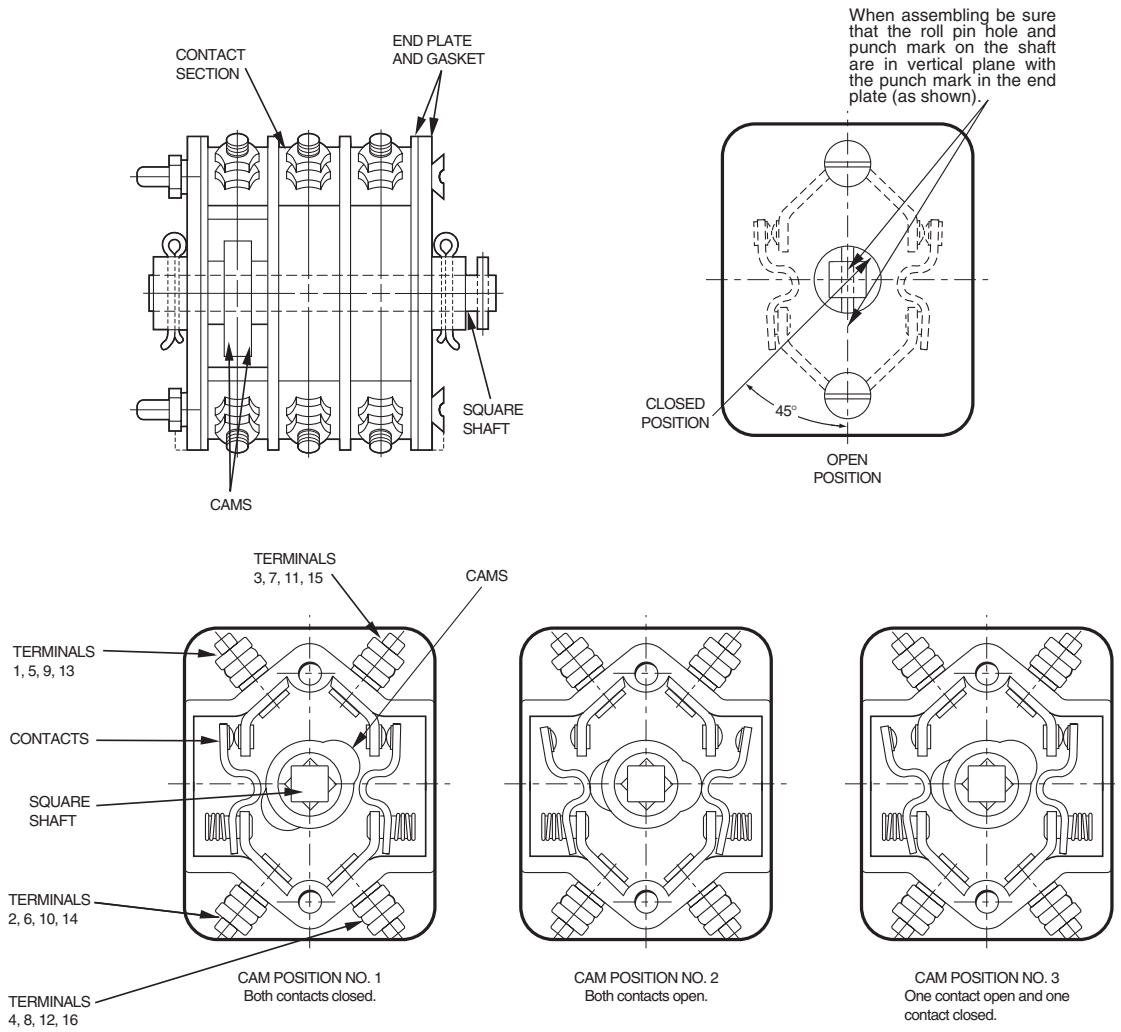

Figure 15.
5. Starting with the rear switch section, lift the cams off the operating shaft, replacing the cams in one of the positions shown in Figure 15.
Before performing any of the test procedures that follow, make sure the 120 Vac power to the heater and voltage charging board (Figure 15) is disconnected to disable the voltage restraint feature. The sectionalizer will not count as long as the voltage restraint feature (part of the voltage charging board) is energized.